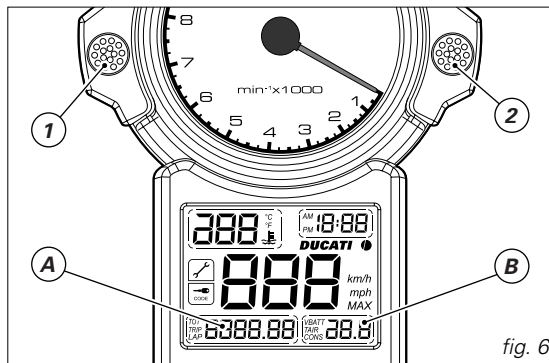

fig. 6
Press the button (1) (fig. 6) with the key turned to **ON** to cycle through trip meter, odometer and lap time indication.
Press the button (2) (fig. 6) with the key turned to **ON** to cycle through battery voltage, air temperature and consumption indication.